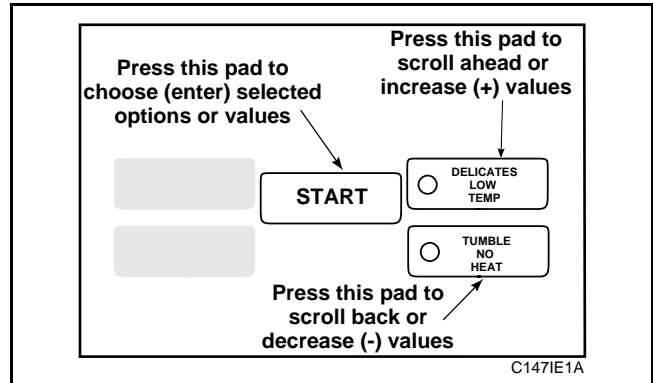

Figure 87
5. Press the LOW TEMP (+) pad or the NO HEAT (-) pad to increase or decrease the day until correct, *Figure 87*.